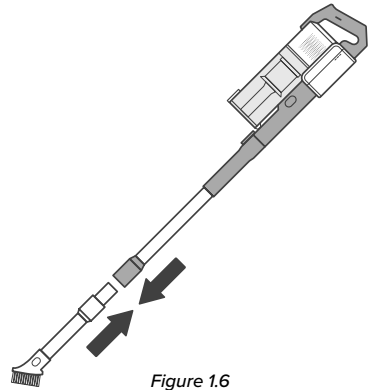

Figure 1.6
2. Slide the nozzle attachment onto the vacuum body. **[Figure 1.6]**
3. Optionally, leave the stick attached to the vacuum body and press the Vacuum Head Release Button to remove the vacuum head. Then, attach the nozzle attachment to the end of the stick. **[Figure 1.6]**